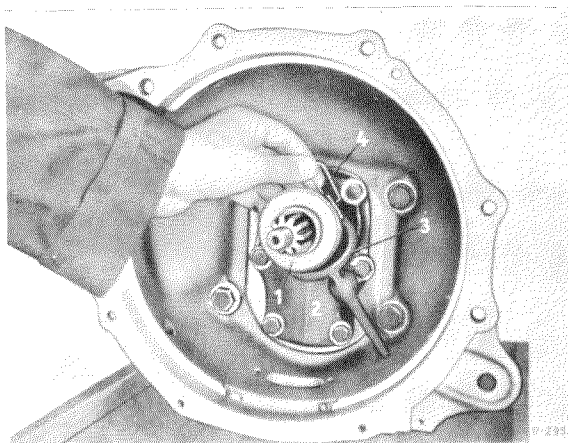

Fig. 26 — 4/14
The selector finger lever (1) and the shifting shaft lever (2) must be in neutral position (see Fig. 26 — 4/11).
Then press back the selector finger lever (1) approx. 1—1.5 mm (see Fig. 26 — 4/11); be-
29. Press the bent ends of the two spring clips (4) out of the throw-out fork toward the rear, turn the spring clips sideways and remove them upward (Fig. 26 — 4/14).
33. Press the throw-out fork onto the ball pin and install the throw-out unit and bearing. Install the spring clips in the throw-out unit, turn them toward the rear and attach the bent ends to the throw-out fork (see Fig. 26 — 4/14).